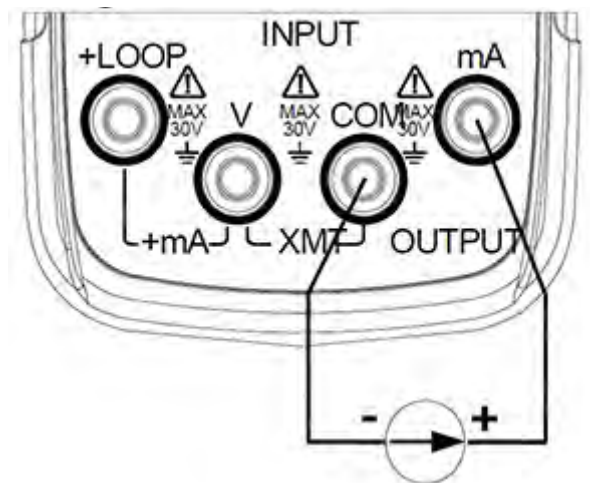

Figure 6-1
1. Insert one end of the test lead into the mA input jack (INPUT) of the EC mAV 2 and connect the other end of the output of the user's device as shown in Figure 6-1: